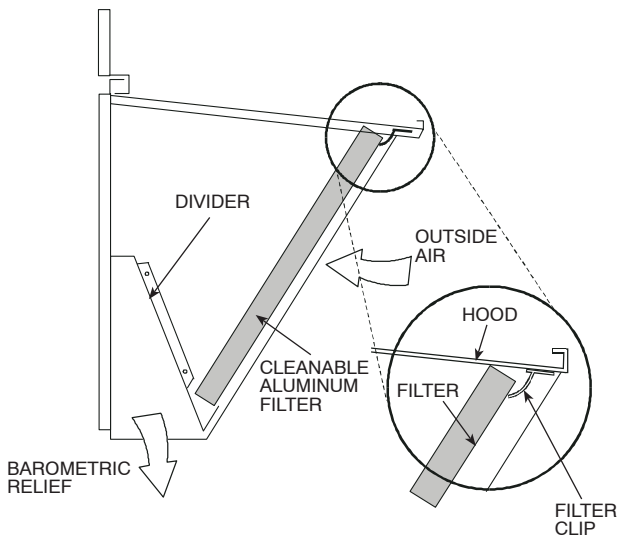

Fig. 13 - Economizer Filter Installation
5. Open the filter clips which are located underneath the hood top. Insert the aluminum filter into the bottom filter rack (hood divider). Push the filter into position past the open filter clips. Close the filter clips to lock the filter into place. See Fig. 13.